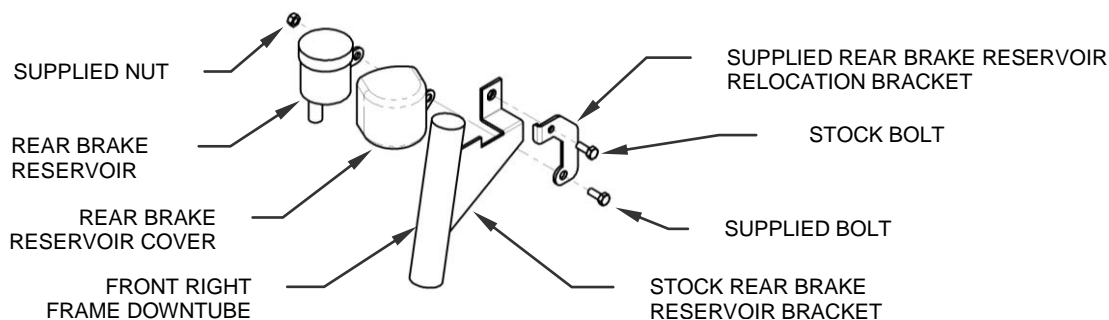

FIGURE 1
6. Attach the bent end of the supplied master cylinder relocation bracket to the stock rear brake reservoir bracket using the stock bolt, see Figure 1.